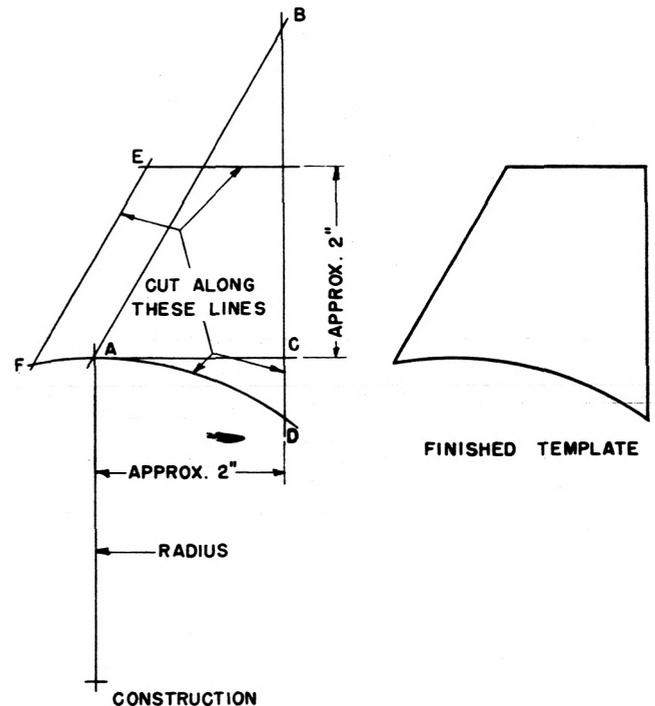

Fig. 10 - Template for Setting Baylis-type Brush Holder
(1) To adjust the clearance between the lower edge of a box-type brush holder and the commutator, where the brush holder is not slotted, loosen the brush holder clamping screw and rotate the brush holder on its stud as required. After an adjustment, be sure the clamping screw is tightened firmly. If the brush holder yoke is slotted, proceed in accordance with (2) below, except that with box-type brush holders the brush angle is not so critical. After adjusting a brush holder, check the brush for fit and send in, if necessary, in accordance with 3.13.
(2) To adjust the distance between a Baylis-type brush holder and commutator, loosen the hexagonal nuts holding the brush stud in place in the brush holder yoke. Slide the stud in the slotted holes of the yoke as found necessary. Inasmuch as the brush angle is very critical, any adjustment of distance of the brush holder from the commutator should be made by sliding the brush stud up or down in the slots without turning the brush holders on the studs or the studs themselves. Check the angle after adjusting the clearance.
(3) In adjusting the clearance, it is desirable to work toward the minimum limit. Where the commutator is worn to such an extent that the clearance, with all possible adjustment made, exceeds the maximum limit, the armature should be replaced. However, if the commutation is satisfactory and the brushes do not chatter or are not forced off the brush holder slide surface, no harm will come if the maximum limit is exceeded slightly. Brush pressures should not be exceeded however, in an endeavor to overcome the brushes jumping off their slide surfaces or to stop their chattering.
(4) To set a Baylis-type brush holder at the correct angle, cut a guide template as described below. Reproduce Fig. 10 on a piece of stiff cardboard, making the radius of the arc equal to the radius of the commutator. The radius is one half of the diameter, which may be obtained by measurement. Draw a radius and where it crosses the arc (point A) draw a line AC at a right angle to it. This will be tangent to the arc. From point A measure 2 inches along this line and draw another line BD at a right angle. Measure along this line 3-1/2 inches from line AC and
3. To revise Fig. 1, 4, 5, 8, and 9, omit old Fig. 10, and add Fig. 3, 7, and 10.